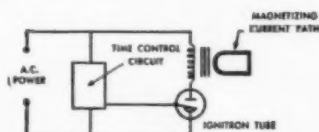

Figure 3—Circuit for half-cycle-type magnetizer
(1) Half-cycle type, operating from A.C. line (Figure 3). Here, an ignitron tube with suitable control allows current to flow for one-half cycle.